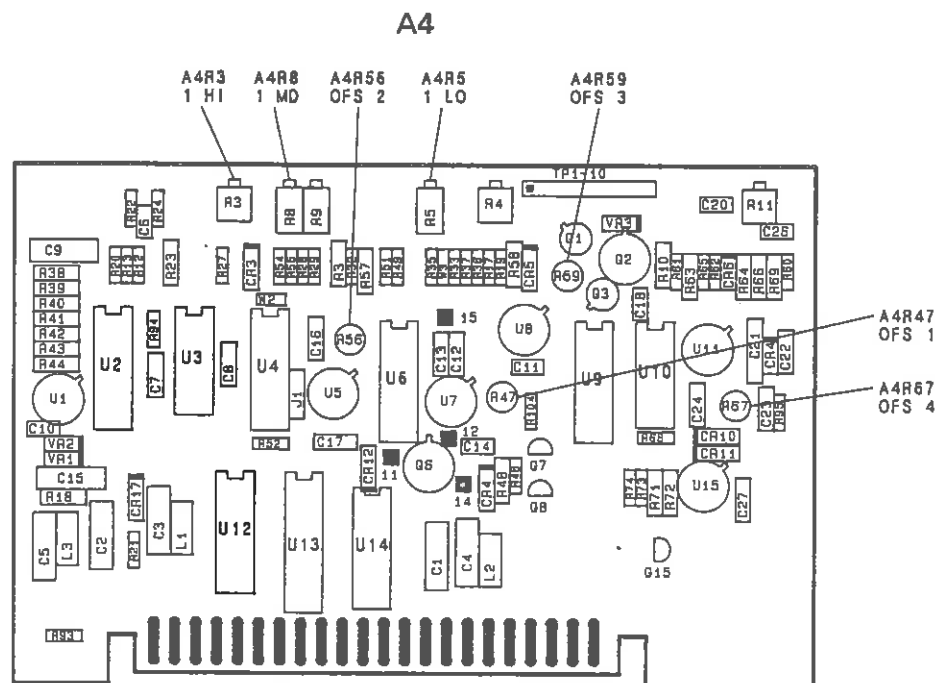

Figure 5-15. A4 ALC Board Adjustment Locations
2. Set the RF plug-in output power for a front panel indication of  $-5$  dBm. Adjust A4R5, 1 LO, (figure 5-15) for a power meter reading of  $-10$  dBm  $\pm 0.1$  dB (this corresponds to  $-5$  dBm at the output of the directional coupler).